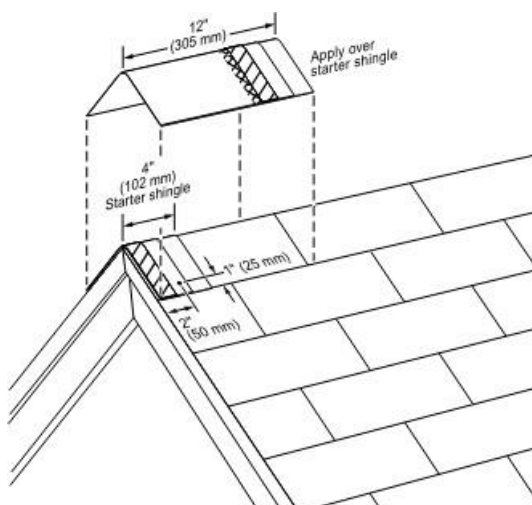
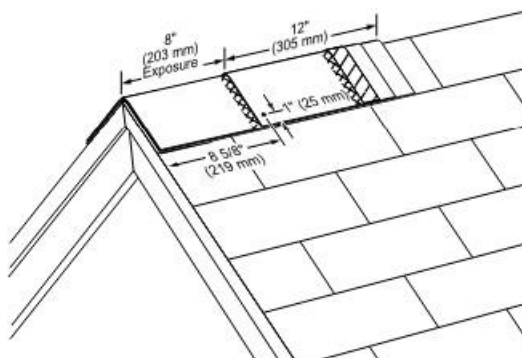

Figure 11
Figure 12
**FASTENING IMPORTANT:** Use TWO nails to fasten each shingle. Fasteners must be minimum 45mm long. For the starter shingle, place fastener 25mm in from each side edge and about 50mm up from the starter shingle's exposed butt edge, making sure fastener goes 20mm into the deck or all the way through the deck. (see Figure 11). For each full Cedar Crest shingle, place fasteners 219mm up from its exposed butt edge and 25mm in from each side edge (see Figure 12).
- Apply the 100mm starter piece with raised overlay edge over the bottom corner of the hip or to either end of the ridge, overhanging the corner or end by approximately 12mm and bending the starter shingle along its centreline to form into place (see Figure 11).